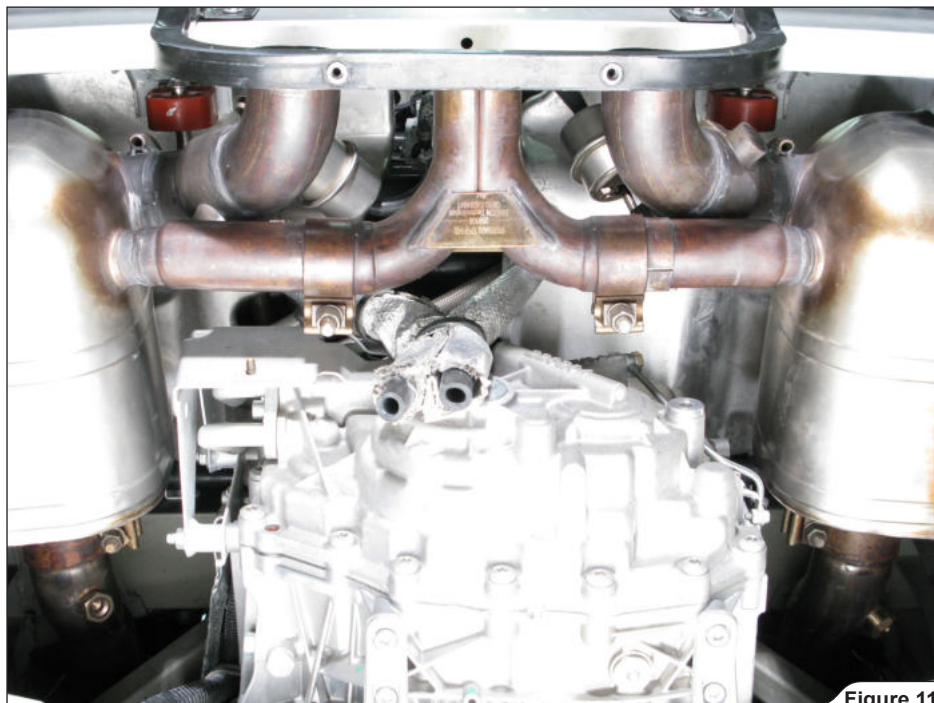

Figure 11
10. **For Slip-On and optional Link Pipes:** untighten the marked clamps and pull the vacuum hoses off the exhaust valves' actuators (**Figure 11**).